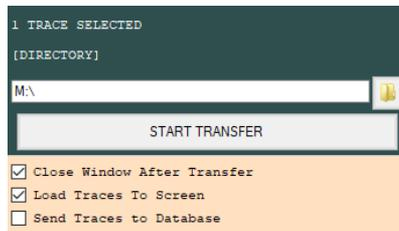

Figure 3.13 The Transfer To dialog box for copying traces to a computer.
5. Click on the *Transfer To* button. A dialog box should appear (Figure 3.13).